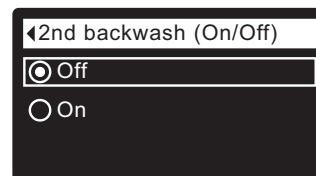

FIG. 77
- 8b. **Second backwash (On/Off):** If the desired option already has a dot next to it (See Figure 77), go to Step 9. Otherwise, press the DOWN (▼) or UP (▲) buttons to scroll to the other option, then press SELECT (O) to choose it. Setting this feature On adds a second backwash and rinse at the beginning of the recharge cycle. Default is Off. Set this feature On if your water supply contains a lot of sediment or iron.